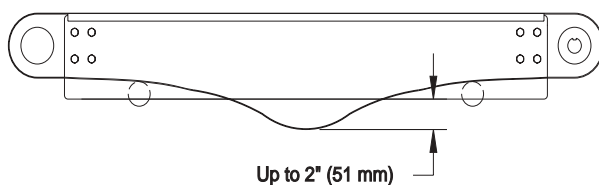

Figure 21
3. Check belt sag by measuring from the bottom of conveyor frame (**Figure 21**). Belt sag should not exceed 2" (51 mm).